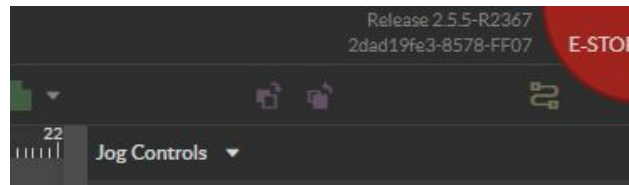

Fig. 23
2. In RE3, go to the top right section of your browser and locate the jog Controls.(See Fig. 23)